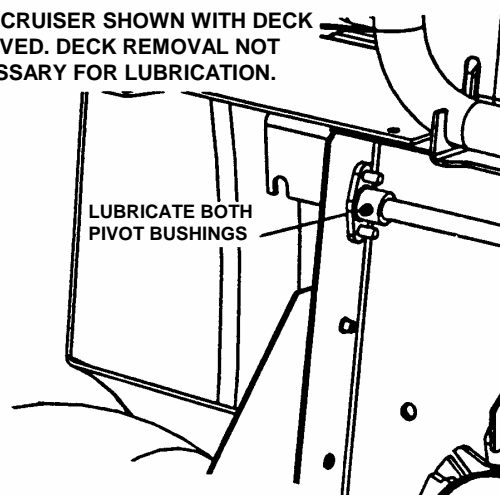

FIGURE 3.7
- Lubricate both pivot bushings with three shots general purpose grease from grease gun. See Figure 3.7.